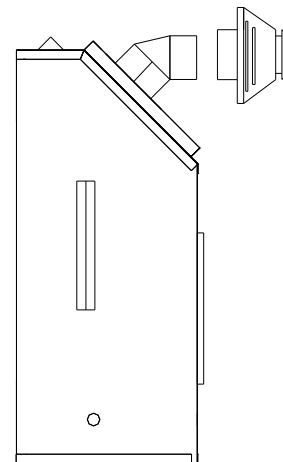

Figure 5
- Horizontal termination (See Figure 5)